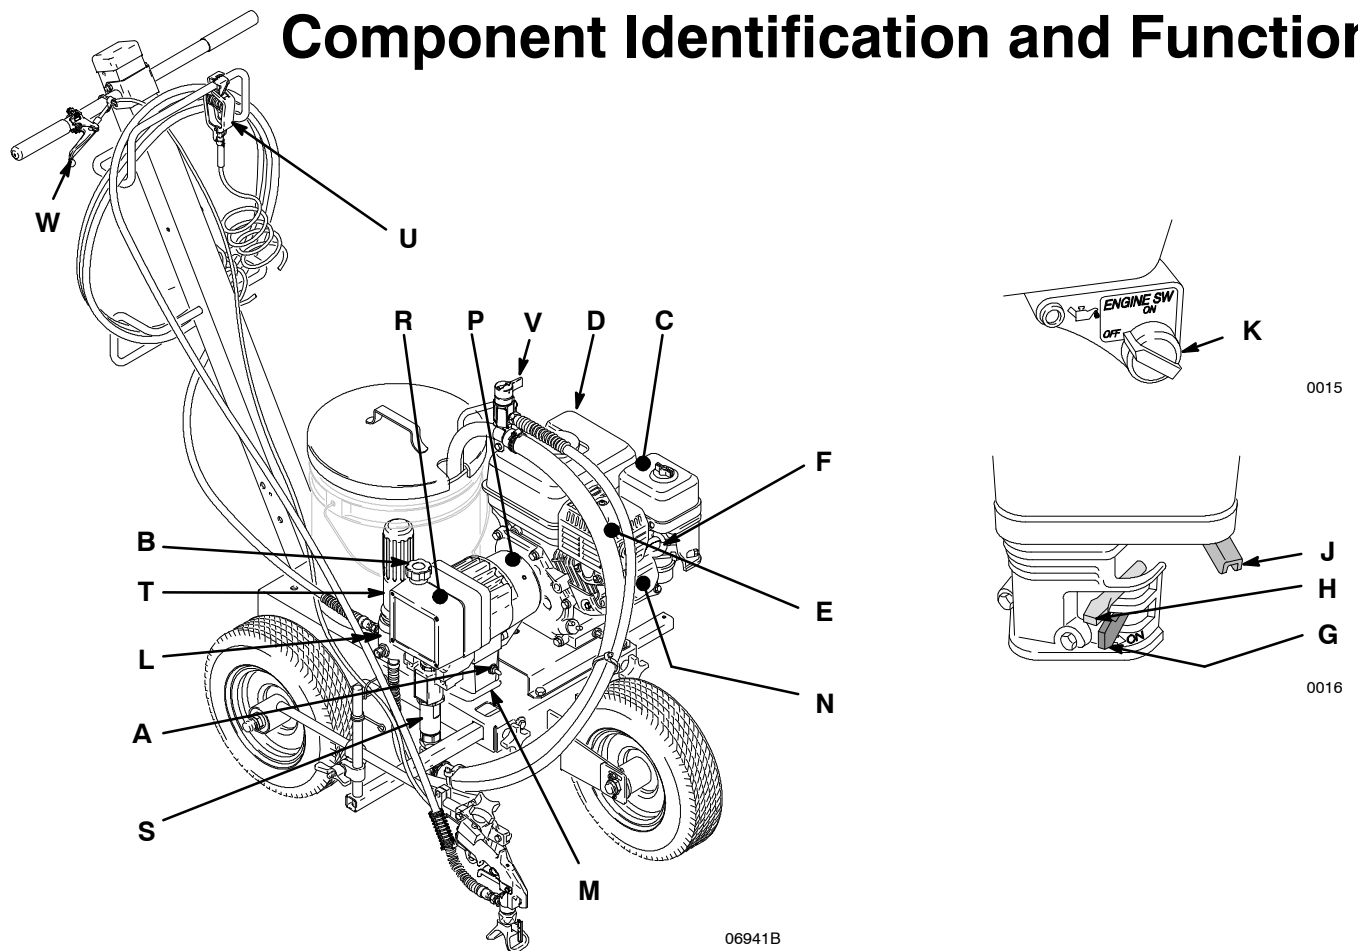

Fig. 1
- Keep the sprayer upright and level** during operation and whenever it is being transported. Set the fuel valve (G, Fig.1) to OFF.
NOTE: Refer to Fig. 1 as you start the sprayer.
3. **Detach pressure drain valve (V, Fig. 1) from suction tube** and place pressure valve drain tube in another bucket.